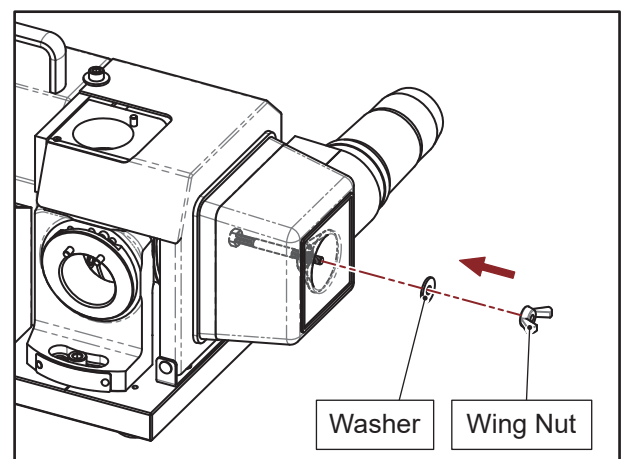

Fig. 5-3
3. Assemble the washer and wing nut and tighten the wing nut to secure the dust collection adapter. (Fig. 5-3)